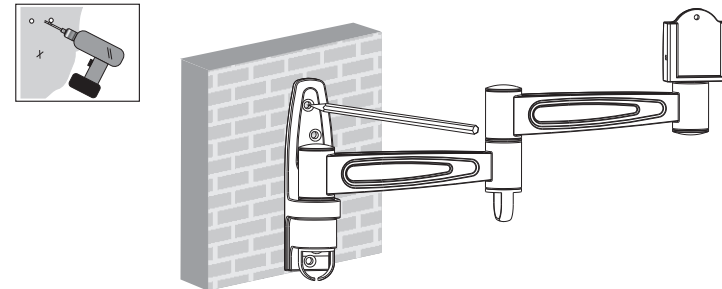

fig. 1.2
- Use the Wall Plate as a template to mark three holes locations on the wall, as shown in fig. 1.2.